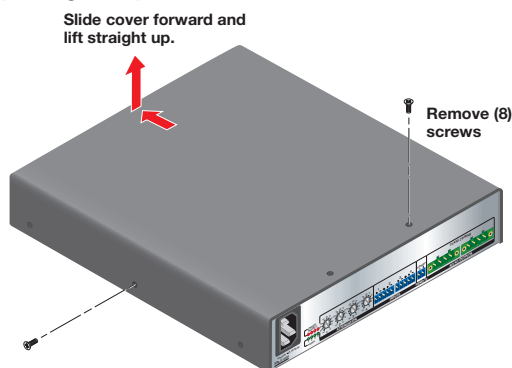

Figure 9. Removing the Cover
2. Remove the 8 screws from the top, bottom, and sides of the XPA and lift off the cover (see figure 9).